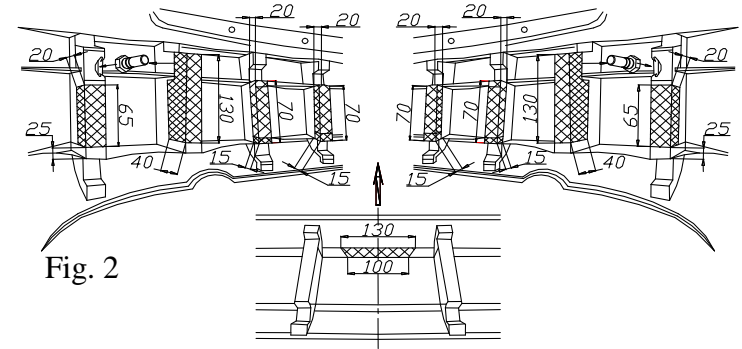

Fig. 2
2. Cut out inside fragments of the bumper according to figure 2.
3. Put main bar of the towbar (pos. 1) into chassis members and fix by bolts M10x35mm (pos. 5), use big washers (pos. 5).
5. Fix body of the automat and place tow-ball according to supplied instruction. Note! Remember to place socket plate (pos. 3) as shown on the drawing 1.